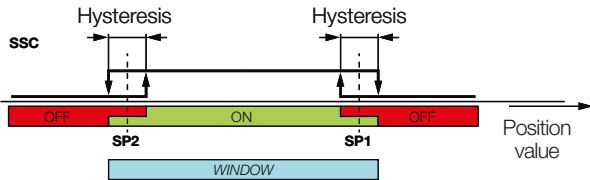

Fig. 6-4: Example for windowed mode
- Windowed mode, (Fig. 6-4): Value: 2